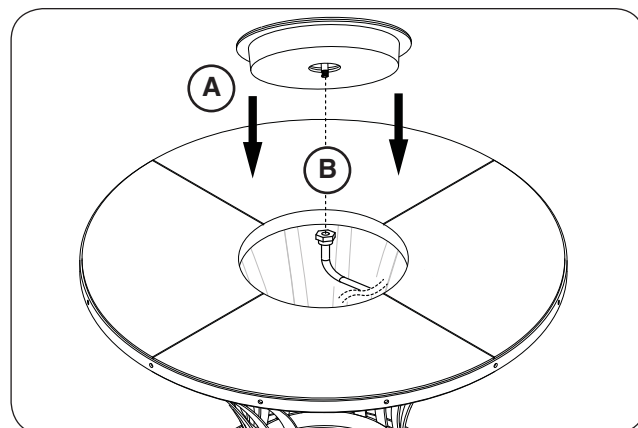

Fig. 18-4 Four-piece models: place burner & connect flex
4. Drop the burner assembly into the opening in the center of the firetable top (see Fig. 18-4).
5. Locate the short flex connector that is coming off the top of the valve assembly (found inside of the enclosure). Route it to the connection found on the underside of the burner assembly and connect. Tighten securely. See Fig. 18-4.